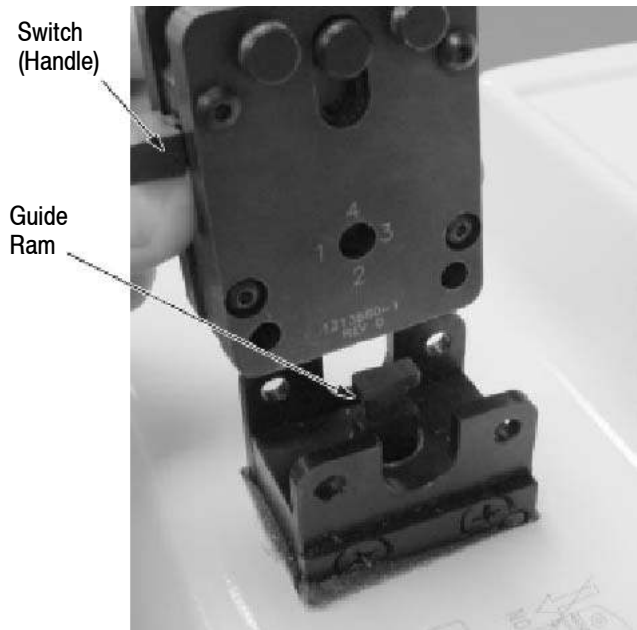

Figure 3
Before mounting the large die straight action adapter, always make sure the guide ram of the terminator is in the lowest position. See Figure 3.
3. Mount the adapter from the back and lock with the guide (safety) pins. Refer to Figures 3 and 4.